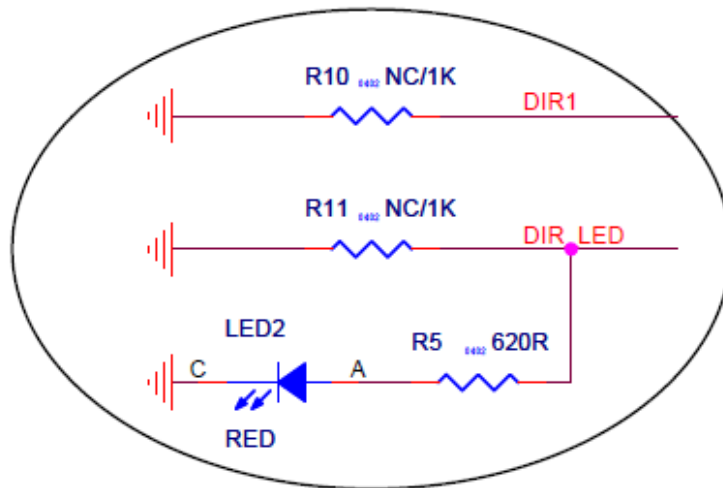

Figure 3- 1 Sensor direction selection circuit
***Note:** In Figure 3- 1, R10 and R11 are external resistors that determine sensor direction, and the values depend on actual application. R5 and LED2 are reserved for LED indication function.